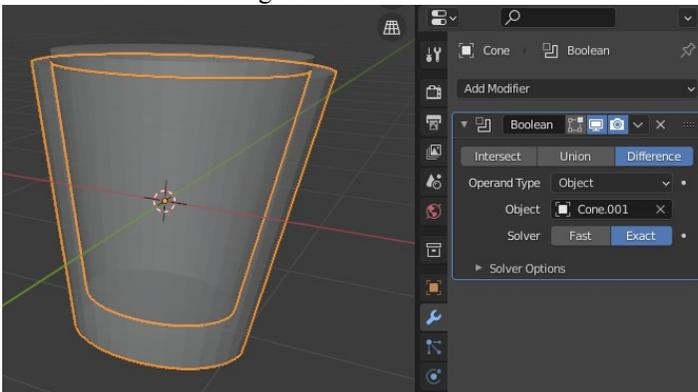

Figure 2-1 Boolean difference modifier using two truncated cones.
2. From **Object ▶ Duplicate Objects**, press **Z**, and move the duplicate slightly upward then scale it down, but ensure the smaller cone protrudes above the top surface of the larger cone, as shown in Figure 2-1.
3. Select the larger cone, click the Modifier Properties tab on the Properties Editor area (blue spanner icon) and **Add Modifier ▶ Boolean** (Figure 2-1). Keep the combination type as **Difference**, select the smaller cone (Cone.001) as the object to operate on.